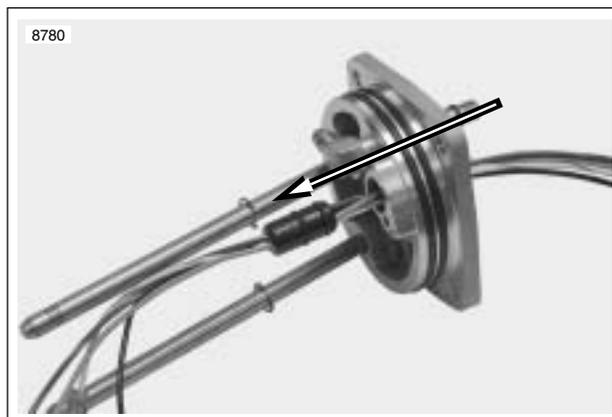

Figure 4-60. Wire Harness Removal Direction
9. See Figure 4-60. From outer side of fuel pump assembly, push wire harness through assembly.